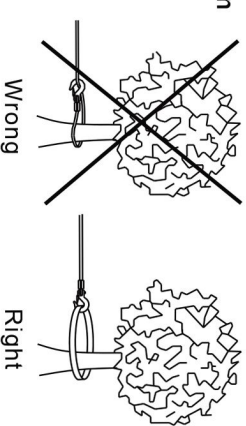

Figure 3
g. Never hook the wire rope back on itself as this can damage the rope. Use a nylon sling when using an anchor point such as a tree. **SEE FIGURE 3.**